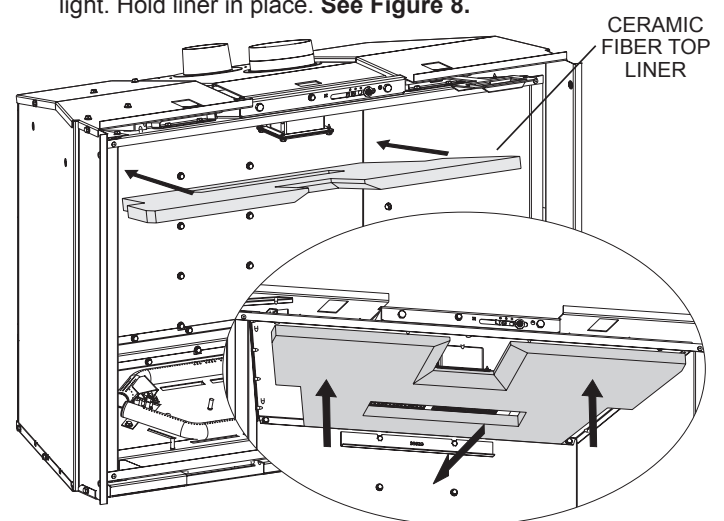

Figure 8
9. Place top ceramic fiber top liner above rear liner bracket with smooth side down. Position ceramic fiber top liner around light. Hold liner in place. See **Figure 8**.